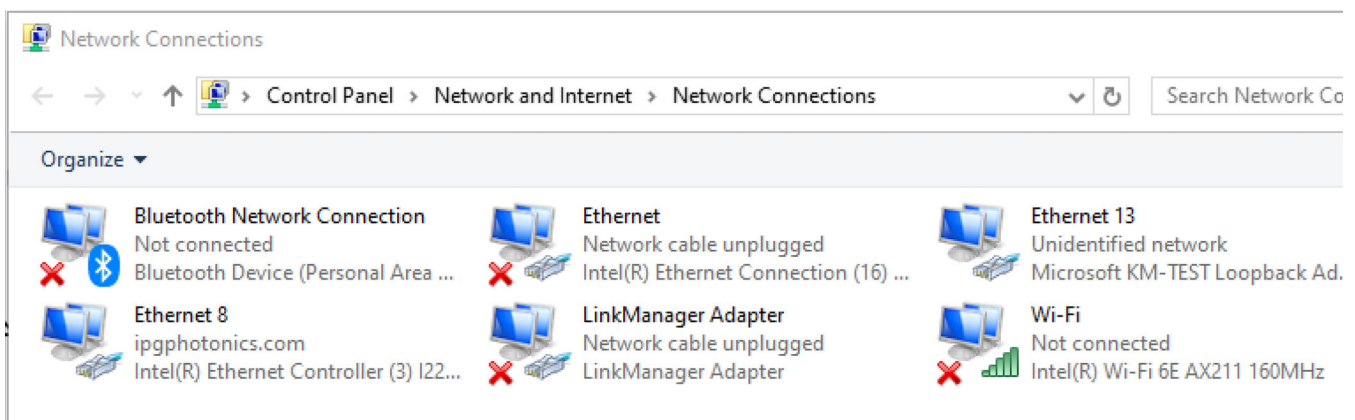

Figure 379: The Network Connections Screen
2. Navigate to **Control Panel>Network and Internet>Network Connections**, as shown in Figure 379 (below).